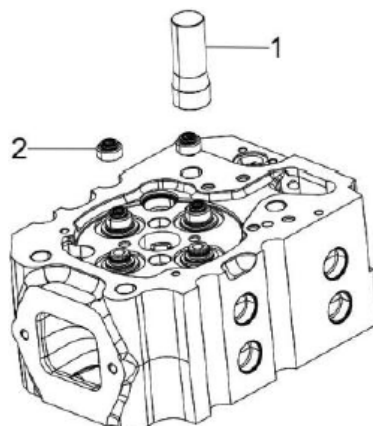

Figure 70. Valve Stem Seal Installation Tool
2. Oil the lip of the valve stem seal (Figure 70, 2). Using the valve stem seal installation tool (Figure 70, 1), install a new valve stem seal on each of the valve guides.